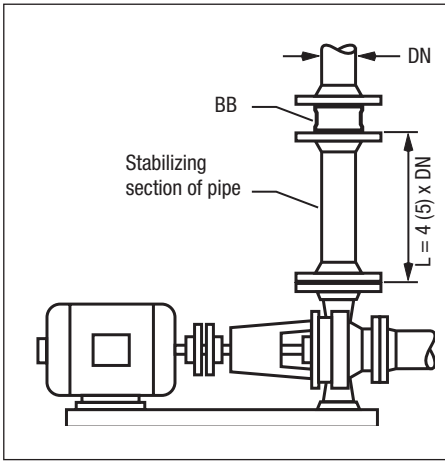

Fig. 6 Installation example BB
If a dual plate check valve is installed immediately downstream of a pump, it is recommended to provide a stabilizing section between pump and check valve having a length of 4 to 5 times the nominal size (DN) of the valve (see Fig. 6).